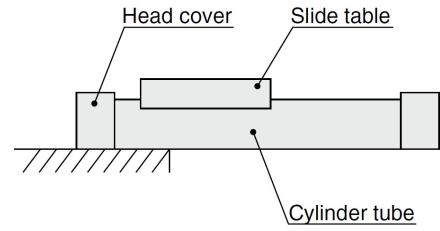

Fig. 5: Cantilever mounting
- Do not cantilever mounting as shown in Fig. 5. It may cause operation failure with the body deflected.